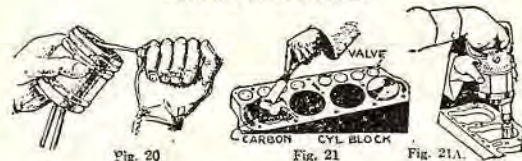

Fig. 20. To scrape carbon from a piston in the manner shown it is necessary to remove the piston from the cylinder which is sometimes an expensive job.
1. To scrape by hand as shown in Figs. 20, 21, 22, or use special wire brushes in a portable drill (Fig. 21A.) (See also, pages 776D and 700.)